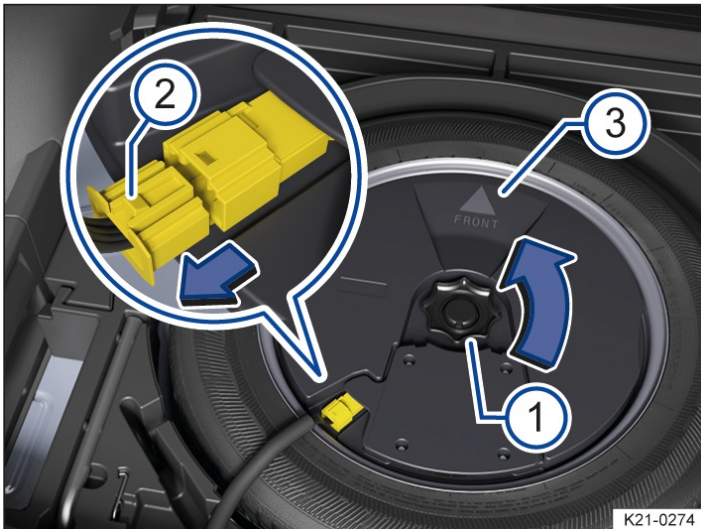

Fig. 2 In the luggage compartment: removing subwoofer (variant 2).
2. Unscrew handwheel → Fig. 2 (1) in the direction of the arrow.
3. To unlock the connector, press the catch on the end of the plug → Fig. 2 (2).
1. Place the subwoofer carefully in the rim base. The tip of the arrow symbol "FRONT" → Fig. 2 (3) on the subwoofer must face forwards.
2. Plug in connector → Fig. 2 (2) until the catch audibly engages.
3. Screw the handwheel → Fig. 2 (1) onto the threaded pin in the opposite direction to the arrow until the subwoofer is